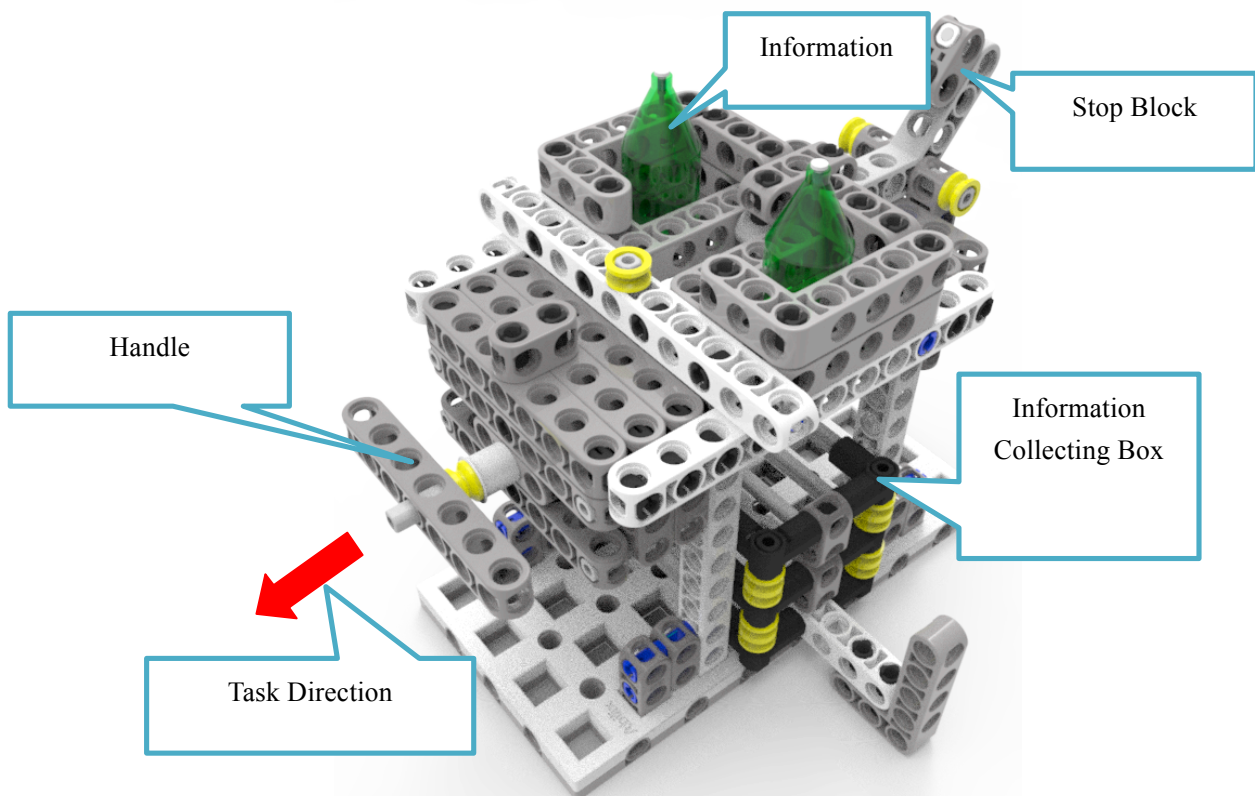

Figure 3-3-1 Information Processing Initial Status
3.3.1 Information Processing task model is placed at Position 10 with variable direction. 2 *Informations* are put on the top of the task model. The handle is locked by Stop Block in initial status. At the bottom of task model, there is an information collecting box for collecting *information*. The initial position of Information processing is shown in Figure 3-3-1.